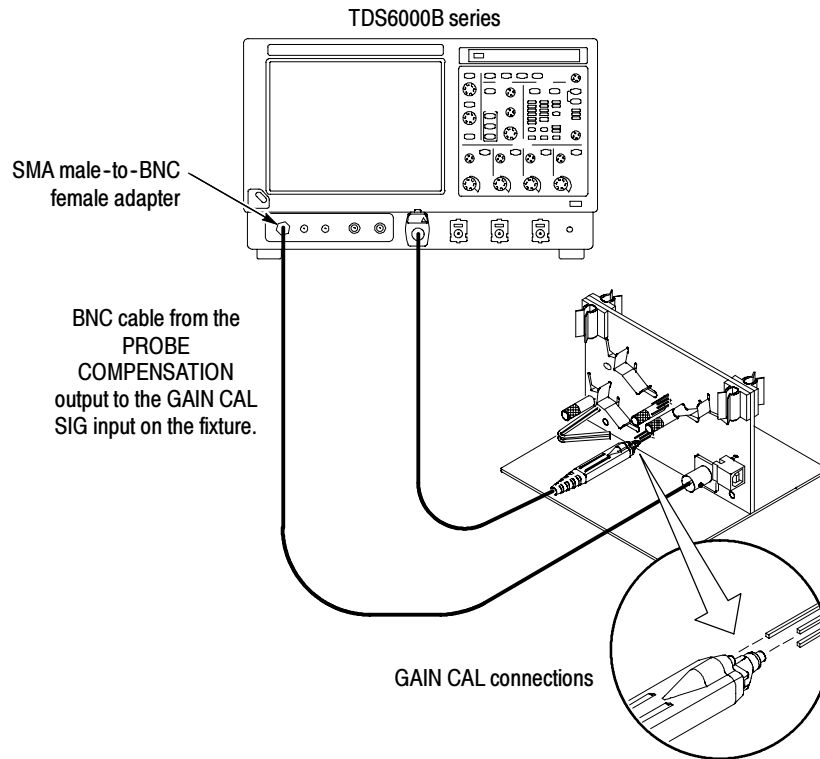

Figure 3-1: Universal test hookup for functional tests - CH 1 shown
2. *Hook up the signal source:* Connect one end of the BNC cable to the PROBE COMPENSATION output connector in the oscilloscope. Connect the remaining end of the BNC cable to the GAIN CAL SIG connector of the fixture as shown in Figure 3-1 on page 3-4.
4. Connect the probe tip to the GAIN CAL pins on the fixture as shown in Figure 3-1 on page 3-4.